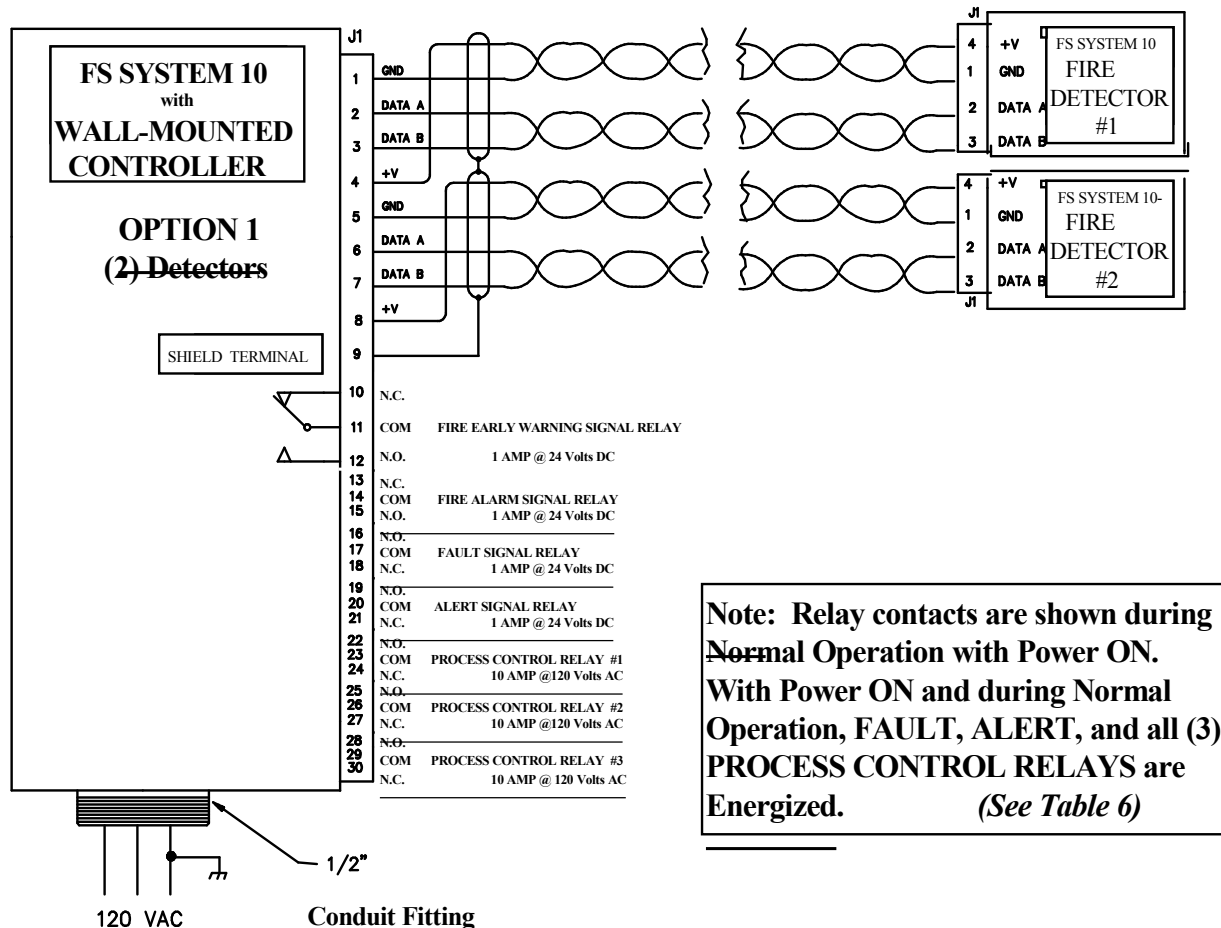

Figure 1: Power, Relay, and Fire Detector Terminations
It is recommended that each Fire Detector is wired with the supplied cable directly to the Wall-Mounted Controller. If required, different length Fire Detector cables are available from Fire Sentry Corporation or one of their Distributors (*see Section 7 - Ordering Information*). If junction boxes with terminals are used, cut the supplied cable to the length required to wire into a junction box. Wire each conductor of the (4) conductors to the on the Fire Detector Terminal Strip. Cut the wire shield flush to the cable insulation to prevent the shield from touching anything conductive. The Detector cable shield must only be connected at the other end to PIN 9 of the Wall-Mounted Controller. (*see Figure 1*).